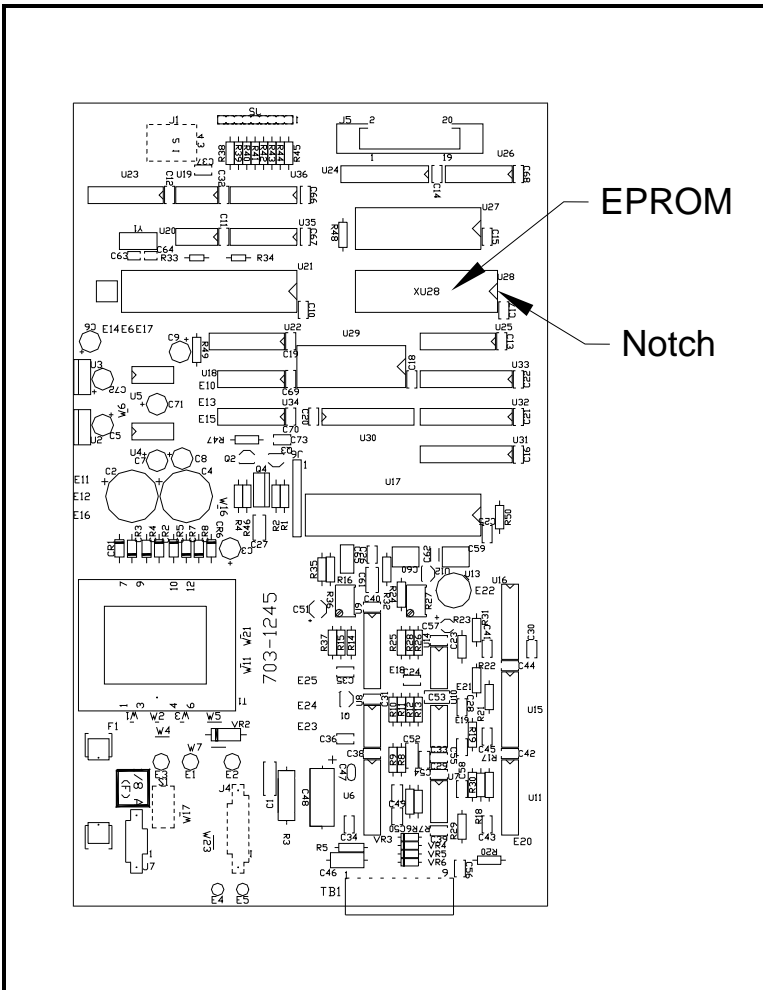

Figure 7: EPROM and Notch (ref. dwg #703-1245)
1. Refer to Figure 7 on page 66 to locate the EPROM (labeled U28) on the #703-1245 circuit board.
3. Place the new EPROM in the socket labeled U28, making sure the notch on the EPROM matches the notch on the socket (see Figure 7 on page 66).